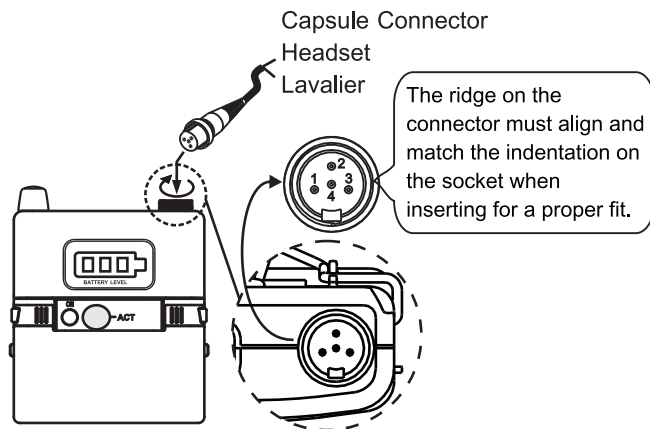

Fig. 29
- ⑰ Housing
- ⑱ Battery Level LCD Display
- ⑲ ACT Sync Window
- ⑳ Power Switch
- (A) Before turning on the power, connect the input signal source to the microphone input jacket **14** first to avoid open-circuit induced noise, Fig. 29.
- (B) Align and fasten the connector clockwise for a secured fit.